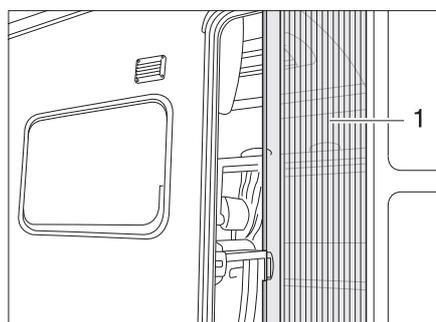

Fig. 26 Insect screen
**Opening:** ■ Pull out the insect screen completely by the handle (Fig. 26, 1).
**Closing:** ■ Slide back the insect screen by the handle (Fig. 26, 1).